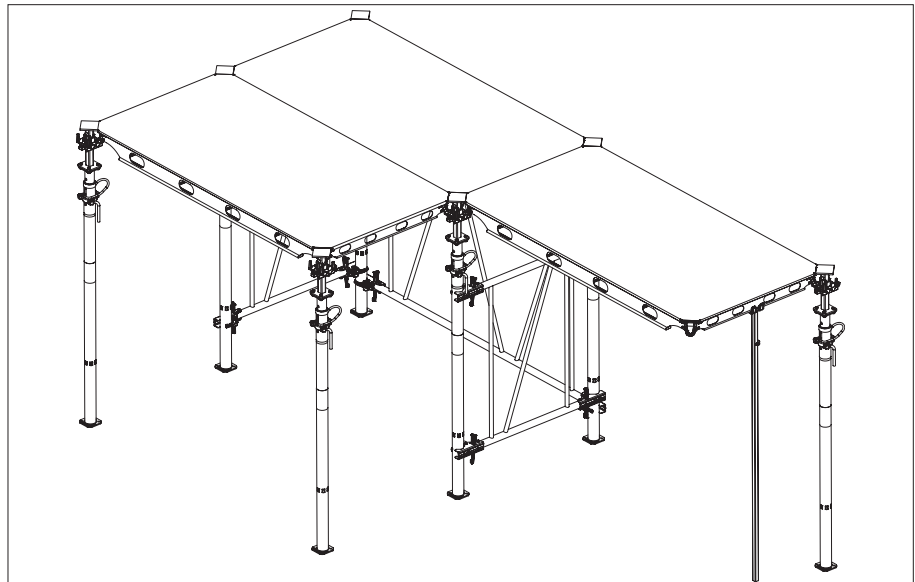

Fig. A5.10
3. While keeping the shuttering aid as a temporary support, attach the next prop to the third corner of the panel. (Fig. A5.10)